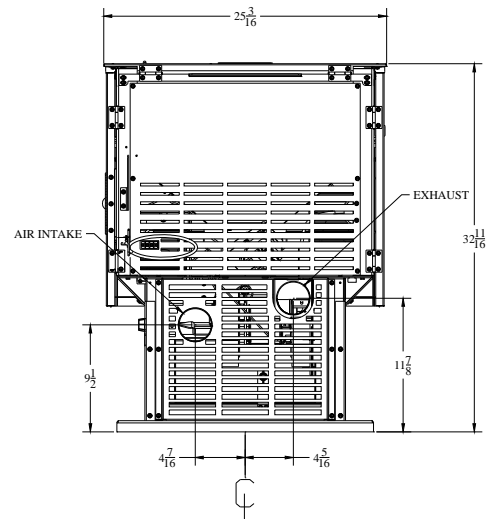
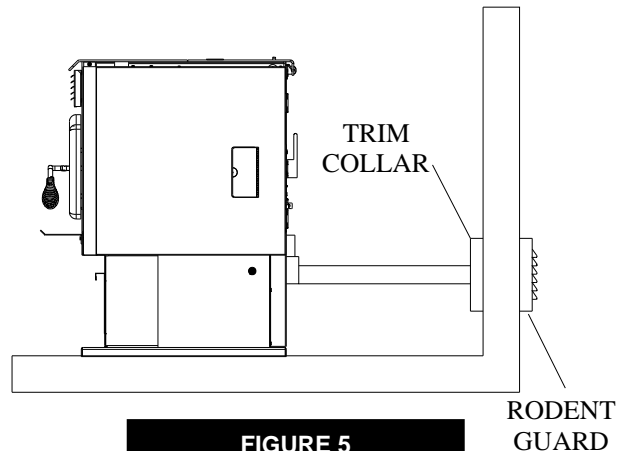

FIGURE 4
FIGURE 5
For a mobile home installation the stove must be connected to an outside source of combustion air. A 3" inside diameter metallic pipe, either flexible or rigid, may be attached to the inlet at the stove's rear (refer to figures 4, 5 & 6). A rodent guard (minimum ¼" wire mesh) must be used at the terminus (refer to figure 5). All connections must be secured and airtight by either using the appropriately sized hose clamp and/or UL-181-AP foil tape.
2. Locate position of hole in wall; directly behind stove exhaust vent (refer to figure 4).